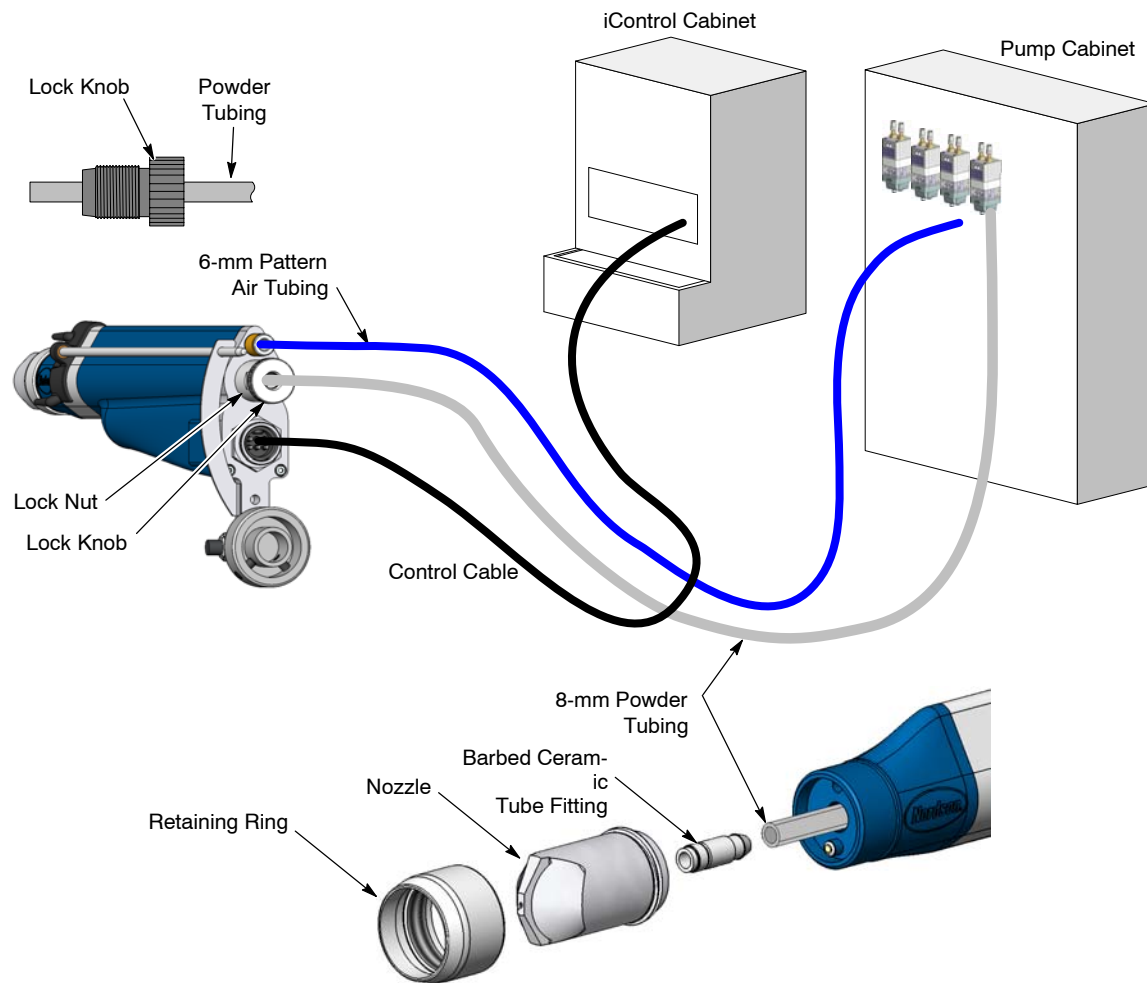

Figure 6 *Tubing and Cable Connections*
1. See Figure 6. Connect the control cable to the gun and the appropriate receptacle on the iControl cabinet. Tighten the cable nuts securely.